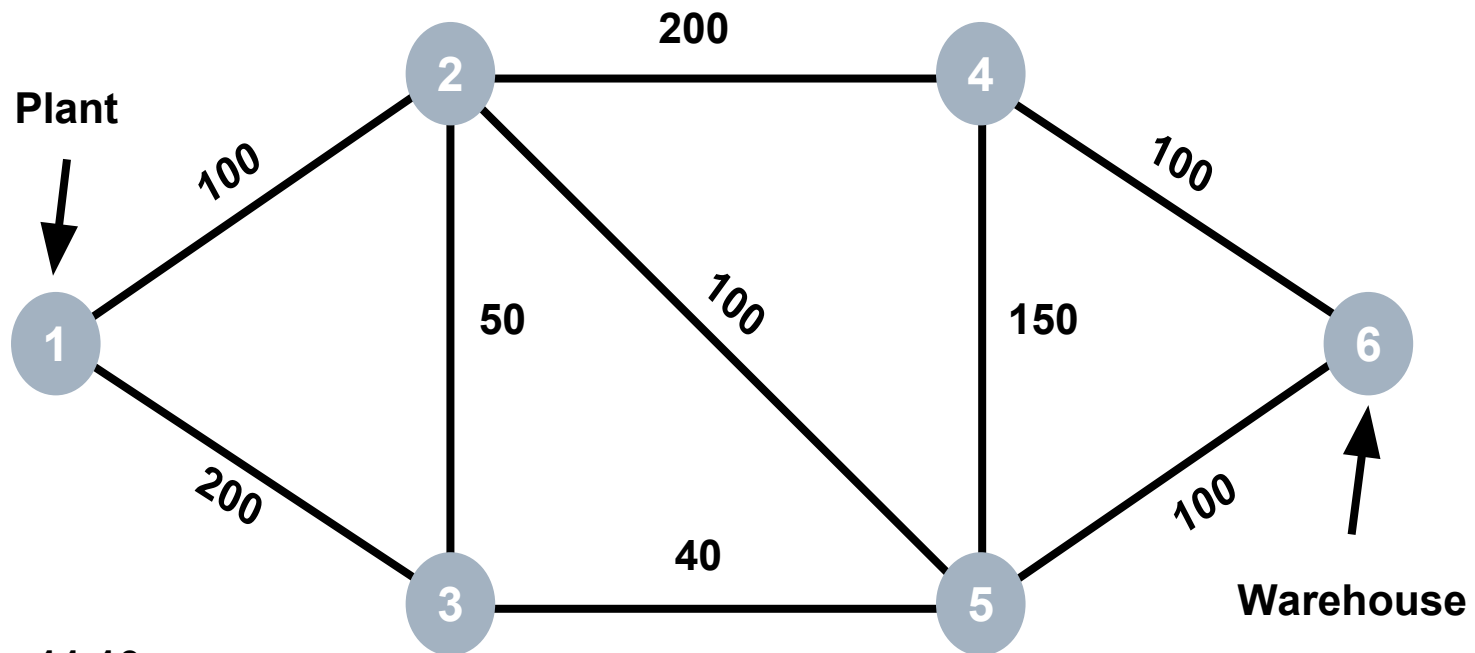

Figure 11.10
- The road network is shown in Figure 11.10.